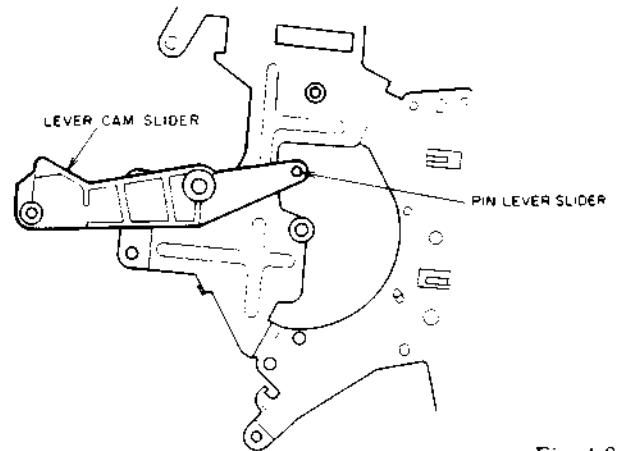

Fig. 4-8
4) Attach the LEVER CAM SLIDER as shown in Fig. 4-8.